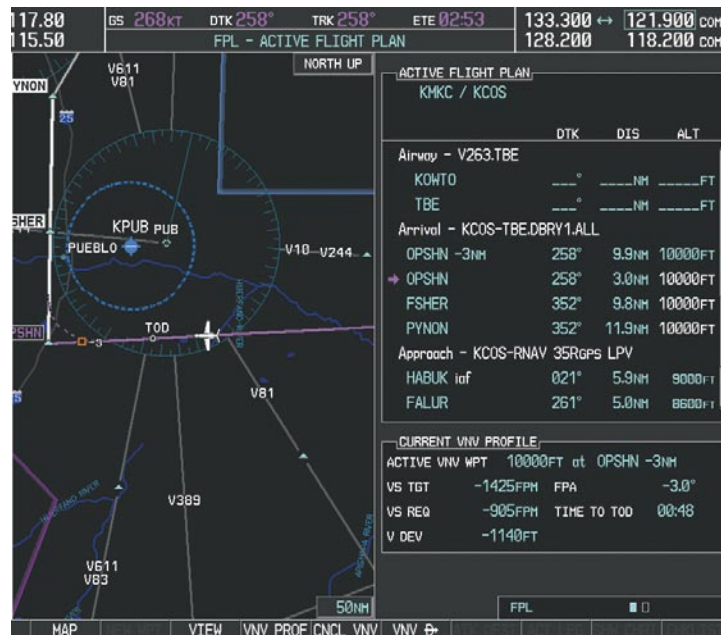
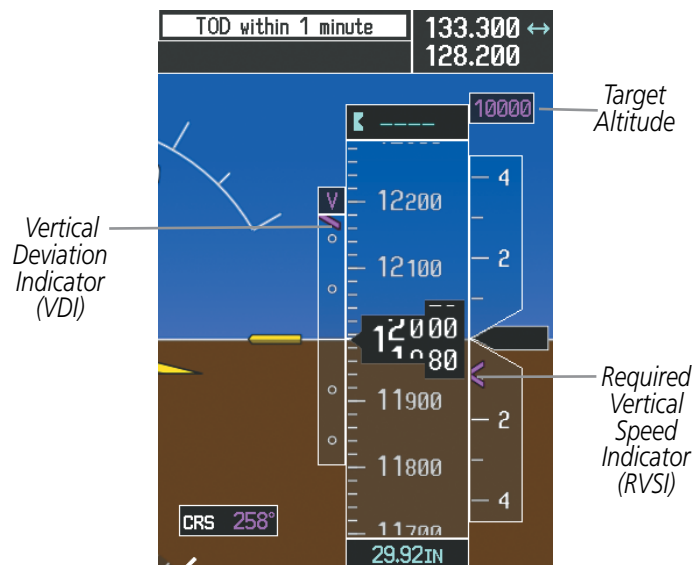

Figure 5-131 Approaching Top of Descent (TOD)
Figure 5-132 VDI & RVSI Upon Reaching Top of Descent (TOD)
- 15) As seen in Figure 5-131, the aircraft is approaching TOD. Note the target vertical speed required to reach the selected altitude. The Vertical Deviation Indicator (VDI) and the Required Vertical Speed Indicator (RVSI) are now displayed on the PFD as shown in Figure 5-132. When the aircraft is within one minute of the TOD, it is annunciated as shown in Figure 5-132, and an aural alert 'Vertical track' will be heard.